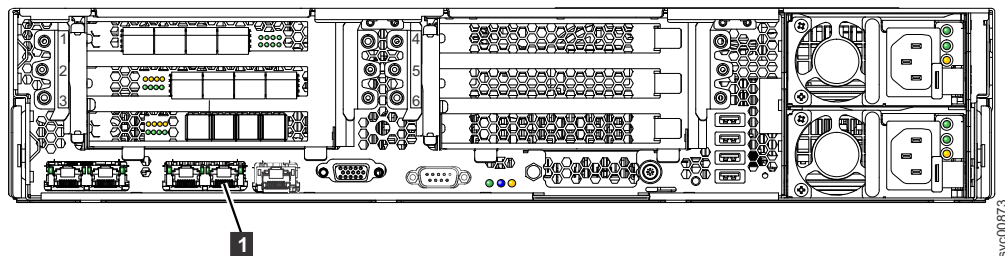

Figure 52. SAN Volume Controller 2145-DH8 technician port
3. Starting from the left at the rear of the node, locate the fourth Ethernet port to the right, which is the technician port. Figure 52 shows the rear of the SAN Volume Controller node, where **1** is the technician port.